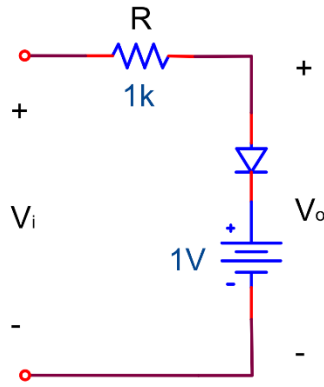

Figure 3.4
1. Refer to the circuit in Figure 3.4. Plot the transfer characteristic (output voltage amplitude versus the input voltage amplitude) and indicate the positive voltage at which the waveform at v_o is clipped. Assume a piecewise linear model for the diode with zero forward resistance and voltage found in experiment 2.